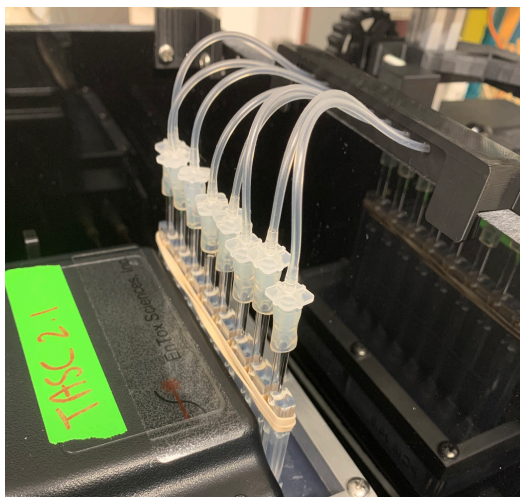

Fig. C11. Picture of Outflow Tubing Assemblies attached to the Tissue Chambers.
2. Attach the Outflow Tubes Adapters onto the TCAs (Fig. C11). Be careful not to push too hard on the TCAs or they will come loose from the MRM.